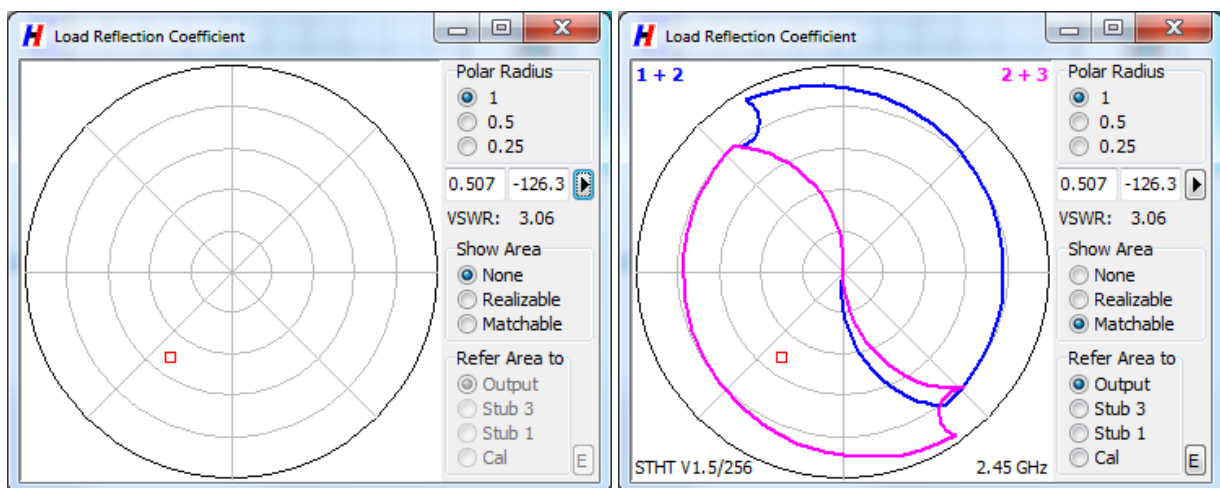

Figure 41. Load Reflection Coefficient window. Right: Matchable area valid for the simulation frequency.
When clicking **Chart** radio button in **Type** group, followed by **Apply** button, the window titled **Load Reflection Coefficient** (Figure 41) will open, containing a polar chart. You are now able to generate the simulated load reflection coefficient by the following methods:
- Click **Chart** in *DUT* page of **Homer Model** window, then **Apply** button. **Load Reflection Coefficient** window (Figure 41) pops up.